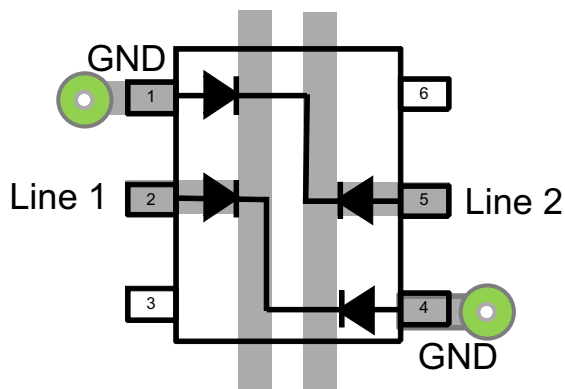

Figure 13. Routing Option 1
- (1) Transmission line pulse with rise time 10 ns and pulse width 100 ns.
(3) Using Routing Option 1, Figure 13.